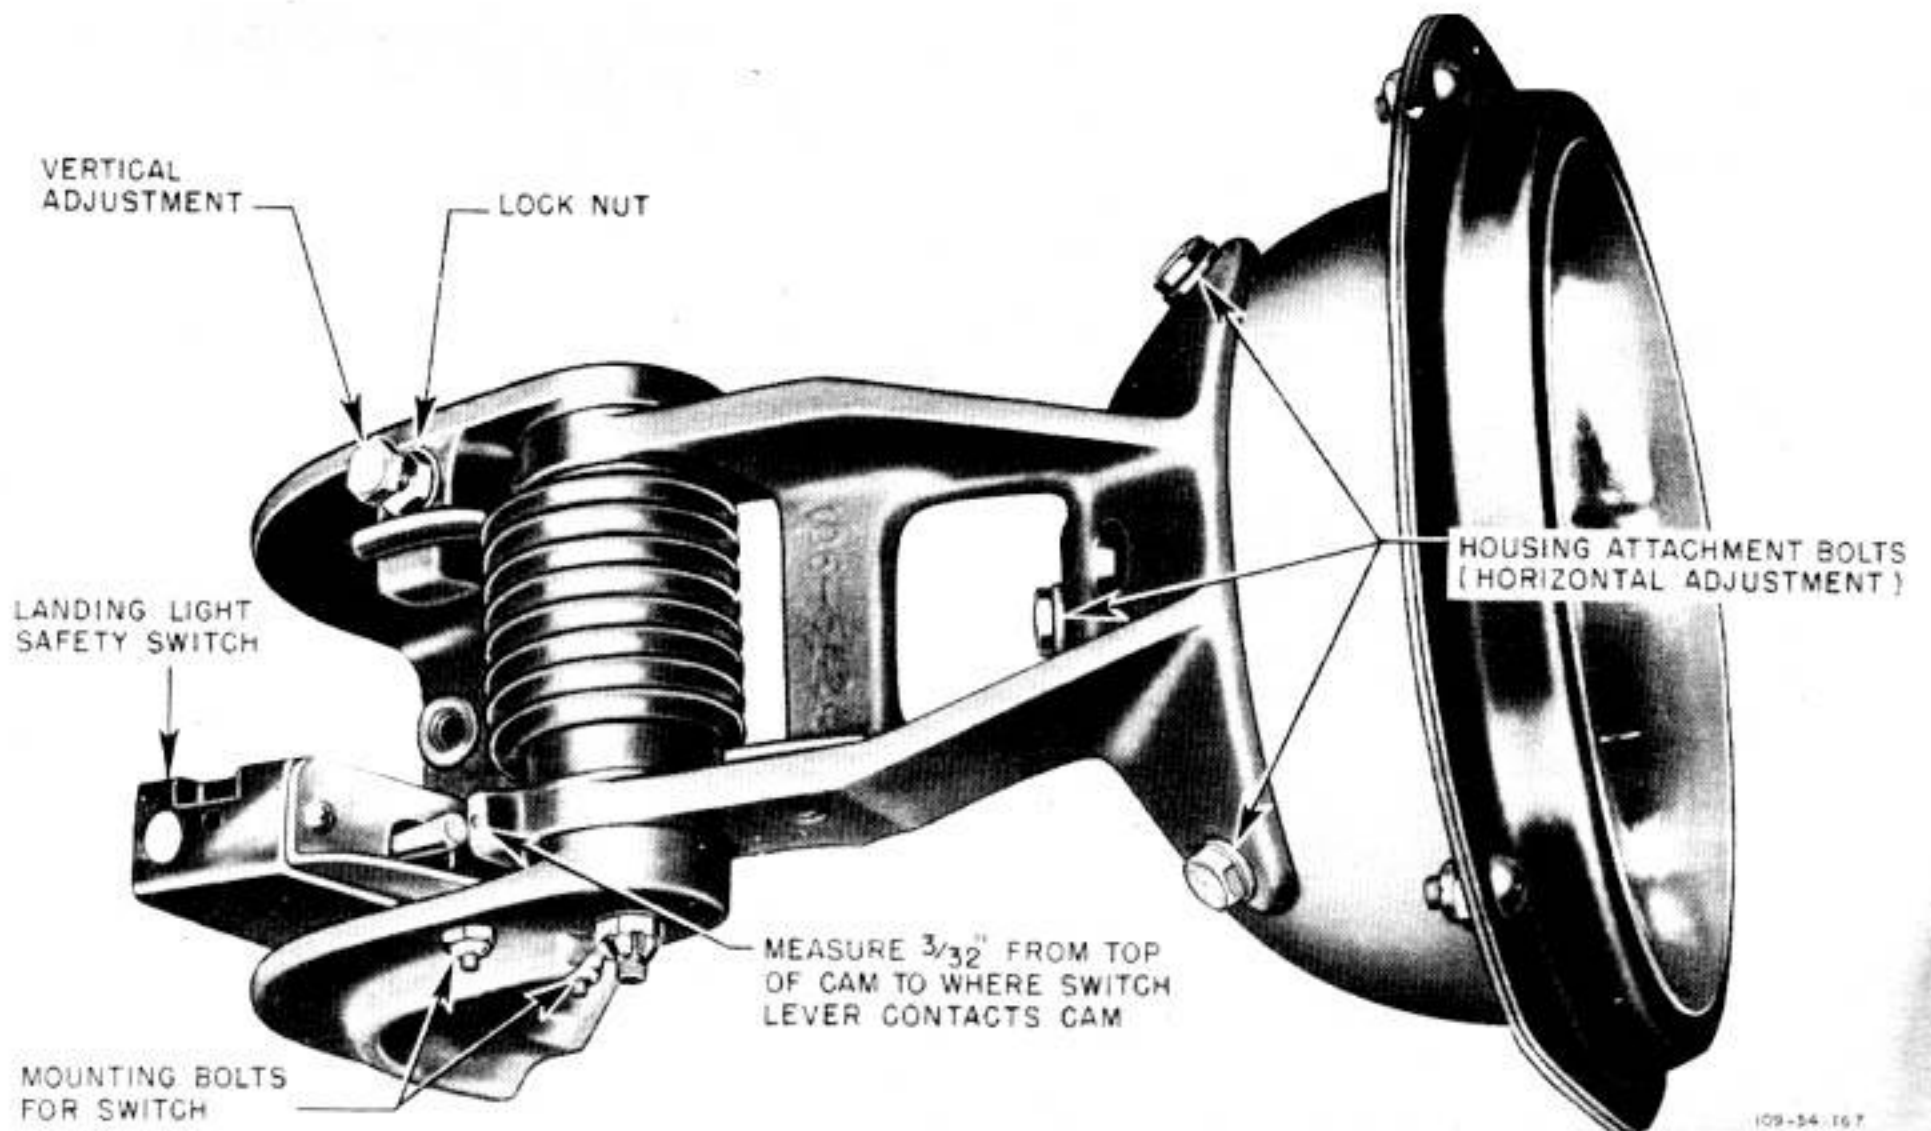

Figure 350—Landing Light Adjustment
desired position. (See figure 350.) Then tighten the three attaching bolts. An adjustment of 6 degrees in either direction can be made.
1. Loosen the two bolts which hold the switch to the base bracket. (See figure 350.)